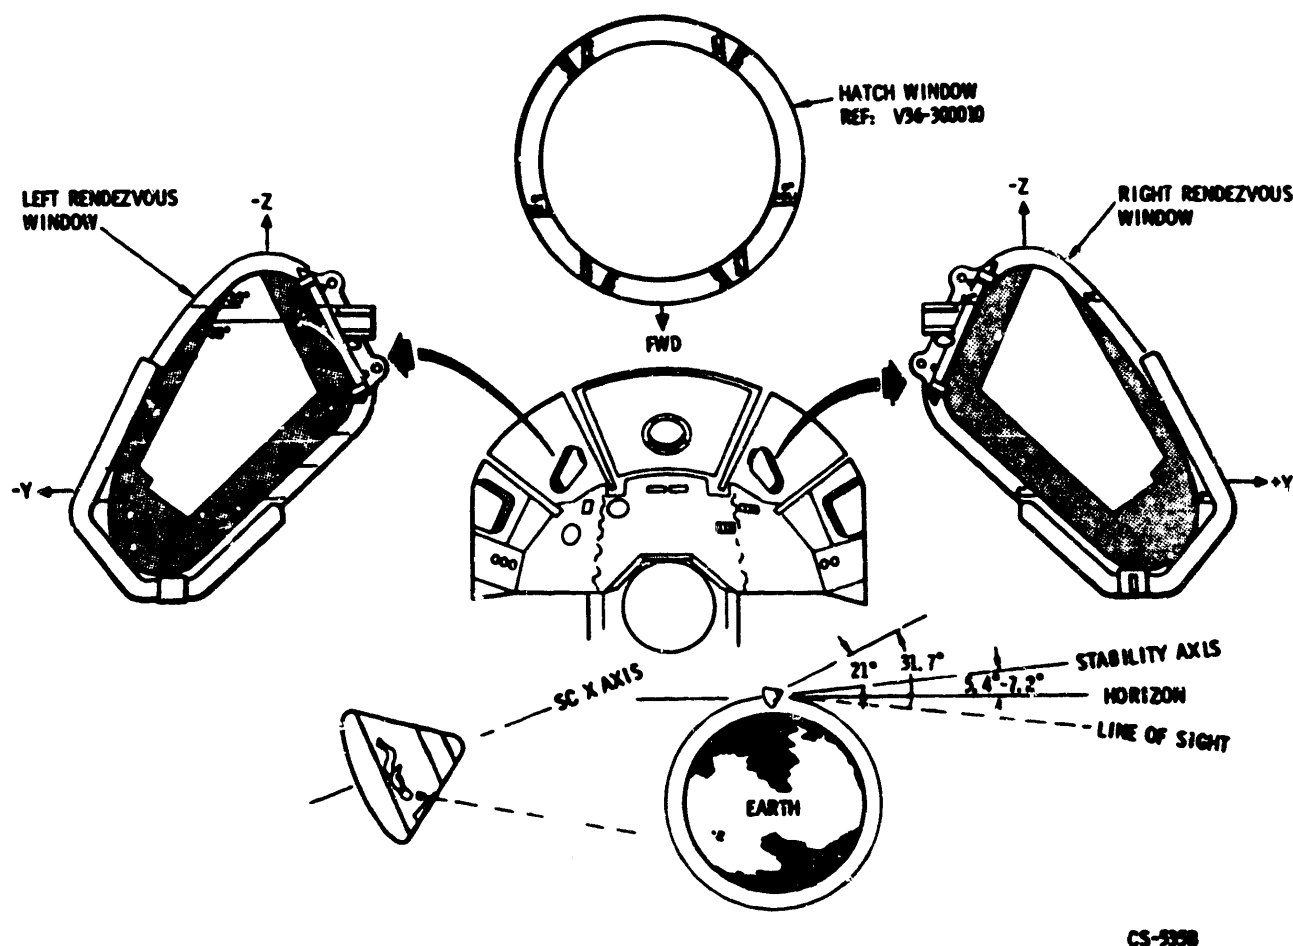

Figure 2.12-22. CM Window Markings
2.12.4.1.5 Window Markings (Figure 2.12-22).